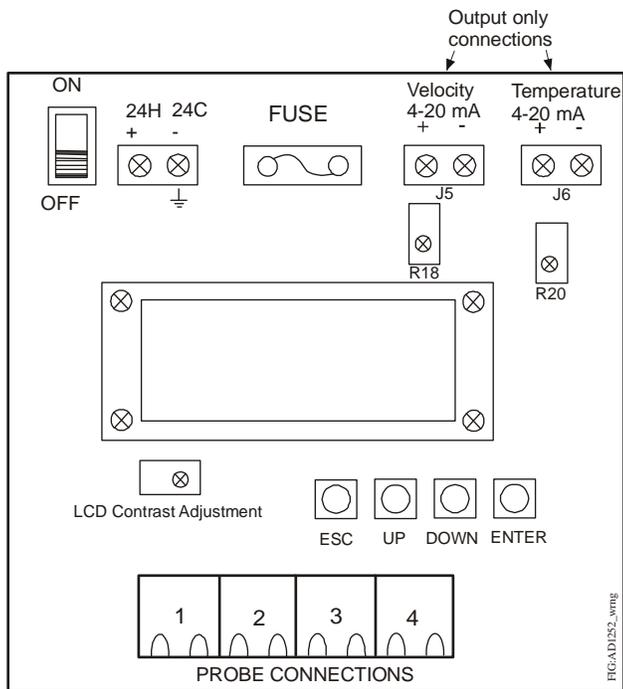

Figure 12: DMPR-RA002 Electronic Controller Wiring Diagram
3. Open the cover and remove the appropriate conduit plugs on the top of the electronic controller for connection of the field wires to the circuit board terminal blocks (Figure 12).
See Figure 12 for supply power and output connections.
1. Connect the dedicated 24 VAC power transformer of appropriate rating to the DMPR-RA002 Electronic Controller. See Figure 12.
2. Connect 4 to 20 mA velocity and temperature outputs from the electronic controller to a BAS controller. See Figure 12. Wiring from the 4 to 20 mA outputs to the BAS should be shielded, twisted pair cable of at least 22 AWG. Larger gauge wire may be required for long runs. All wiring must comply with applicable codes.
2. Move the electronic controller's power switch (Figure 12) to the ON position.
3. Use the LCD Contrast Adjustment screw (Figure 12) to adjust the LCD contrast as desired:
Use UP and DOWN (Figure 12) to scroll through each sensor's velocity and temperature reading. Press ESC on the electronic controller to display the average velocity and temperature values.
To scroll through each of the menu options, press UP and DOWN on the electronic controller (Figure 12):